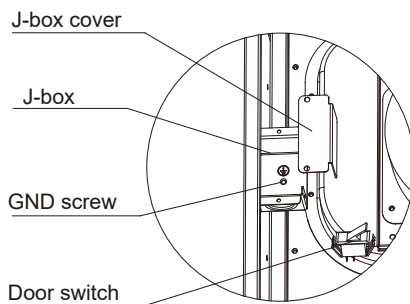

Fig. 9-1 J-box
1. Remove and save two screws holding J-Box. (See Fig. 9-1.)
See Fig. 9-1.
Electrical Box on Furnace Casing Side. See Fig. 9-1 and Fig 9-3.
4. Remove and save two screws holding J-Box. (See Fig. 9-1.)